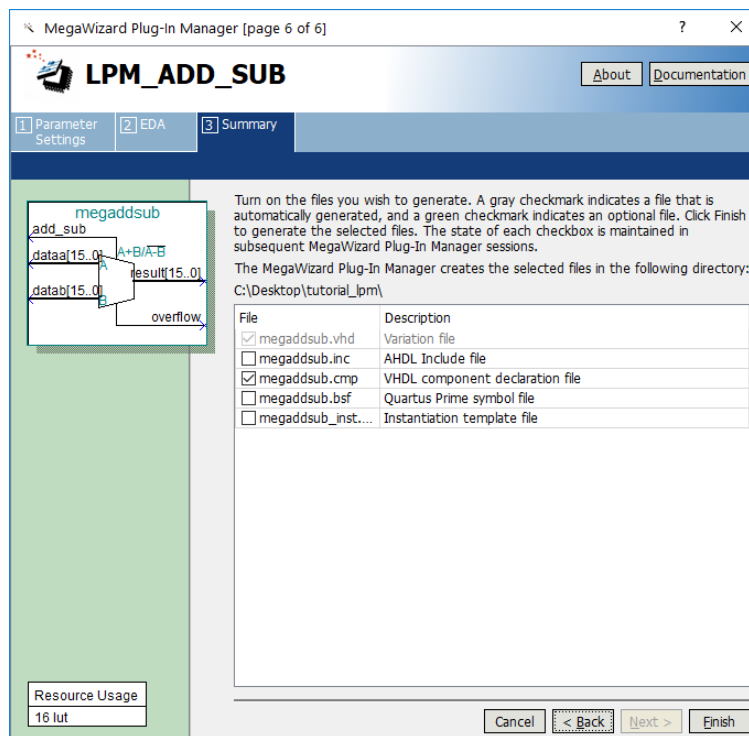

Figure 11. Files created by the wizard.
- Figure 11 gives a summary which shows the files that the wizard will create. Press Finish to complete the process.